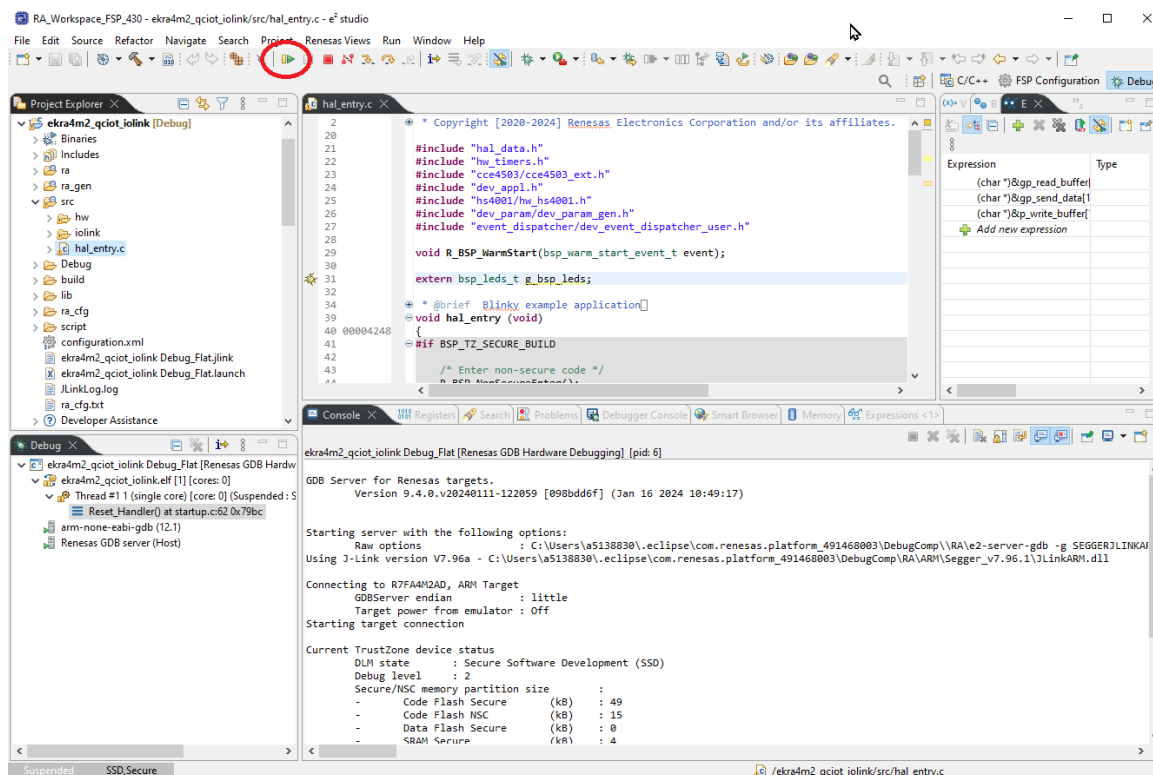

Figure 18. Run Sample Project
10. After the code has been flashed, click on the *Run* icon (see Figure 18).